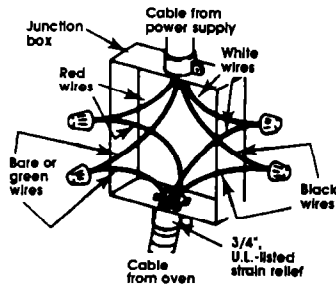

Figure 2
3. Connect the two, black wires; then connect the two, red wires. (See Figure 2.)